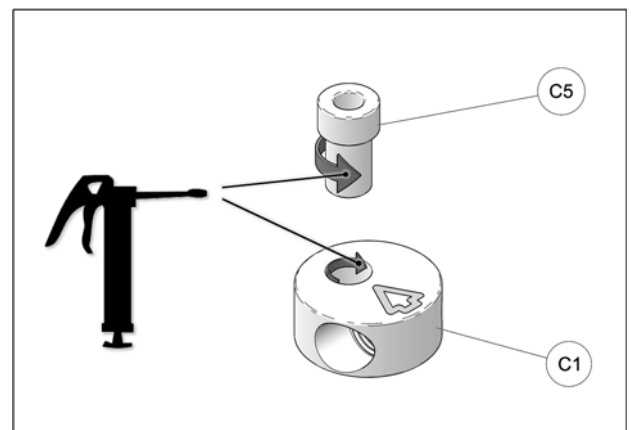

Fig. 20
- Apply grease evenly all around step spacer bushing (C5) and in hole of aluminium disk (C1) when assembling these parts together. See Fig. 20